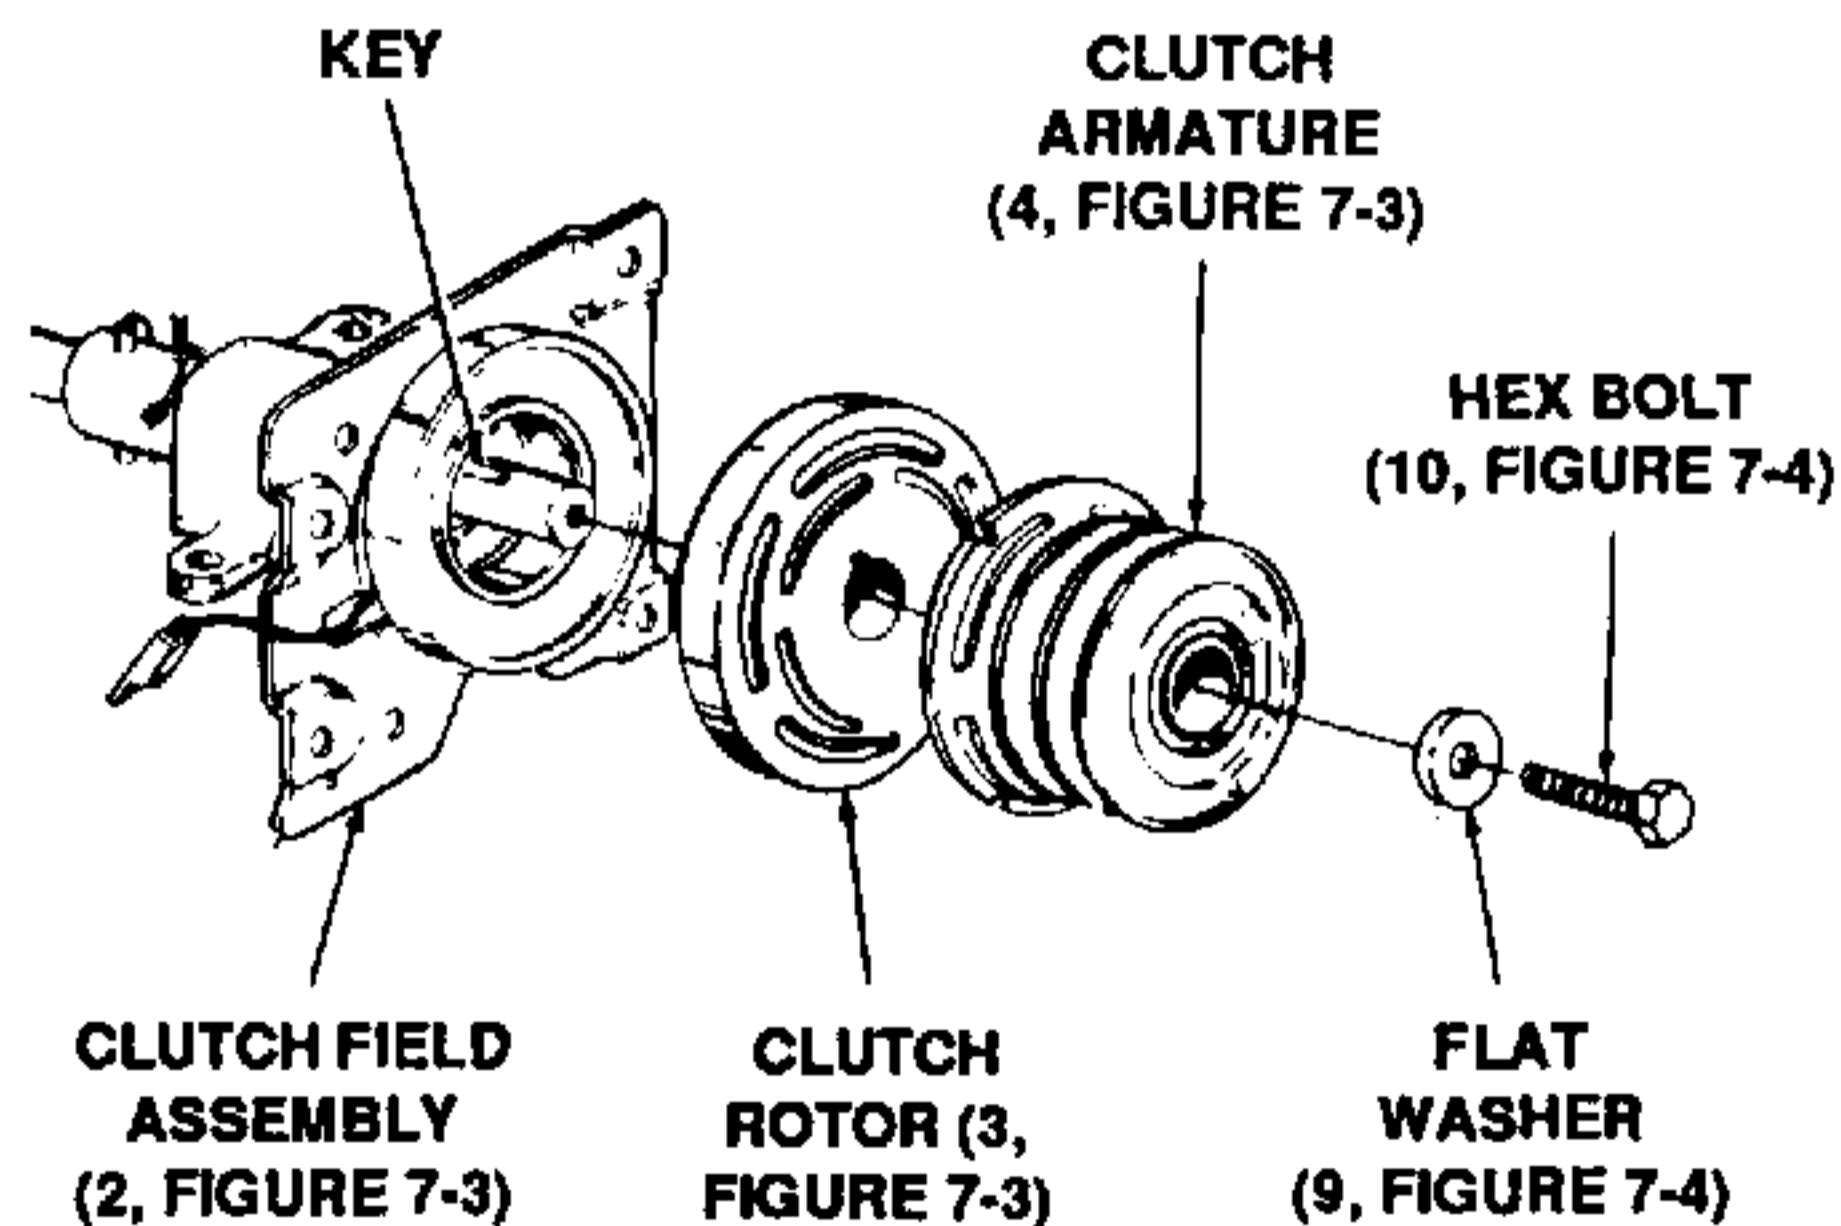

Figure 7-21. Installing Clutch Rotor on Rear PTO Clutch Shaft.
washer (9, Figure 7-4) and 1-inch long hex grade 8 bolt (10). Refer to Figure 7-21.